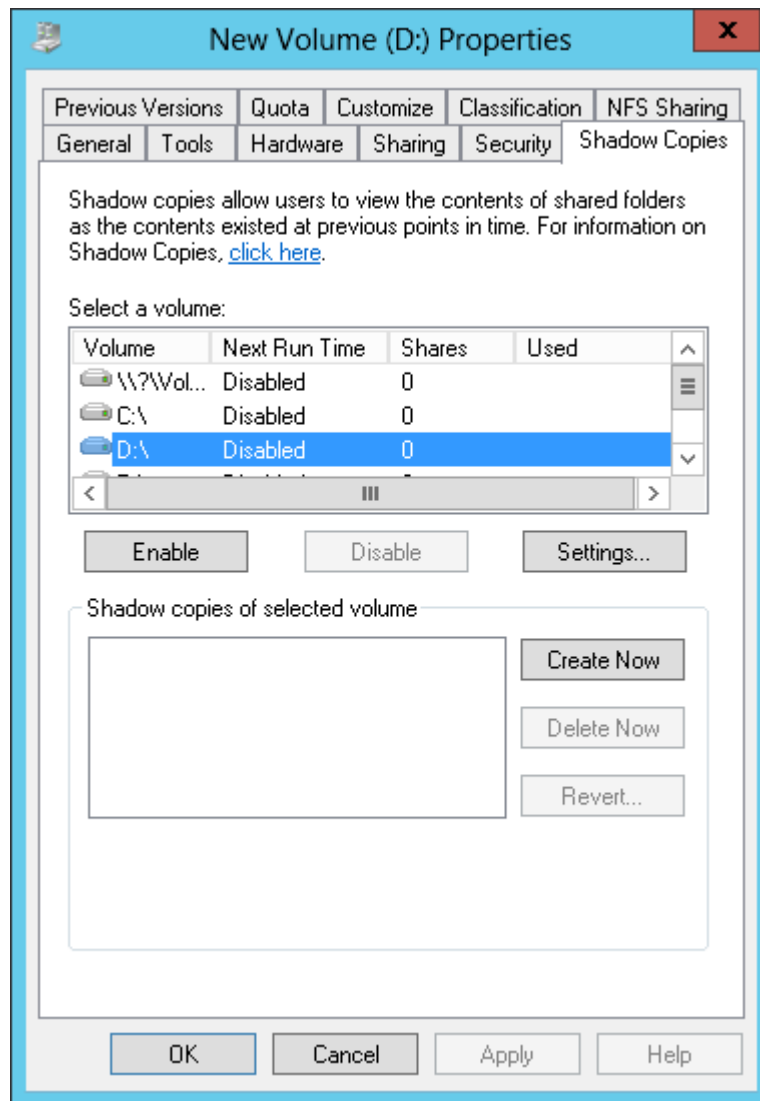

Figure 47: Accessing shadow copies from My Computer
3. Click the **Shadow Copies** tab. See Figure 47: Accessing shadow copies from My Computer on page 125.